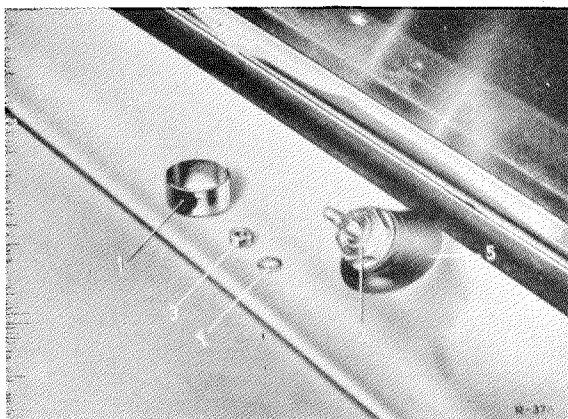

Fig. 82 — 5/1
4. Take off the chromium-plated cap (1) on the left and right windshield wiper shafts and unscrew the hexagon nut (2) (Fig. 82 — 5/1). Take off the washer and the rubber seal (5).